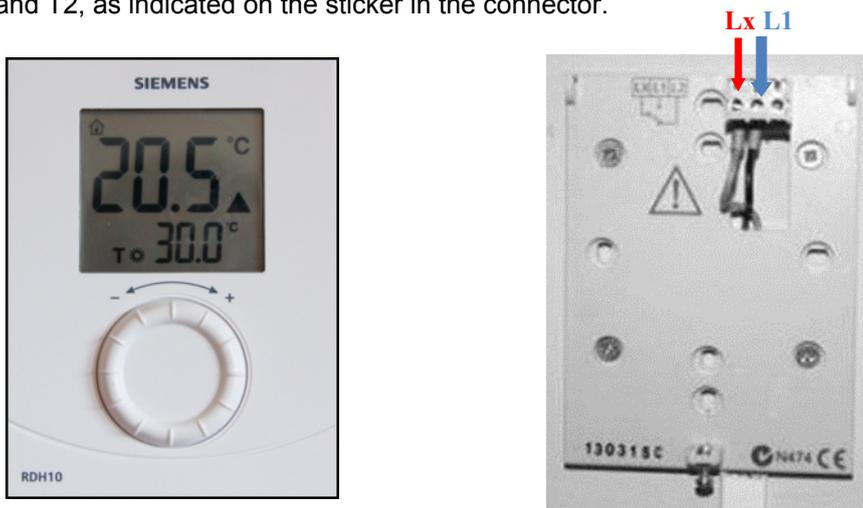

Figure 6.2
- Connect the two thermostat wires to point Lx and L1 (figure 6.2)